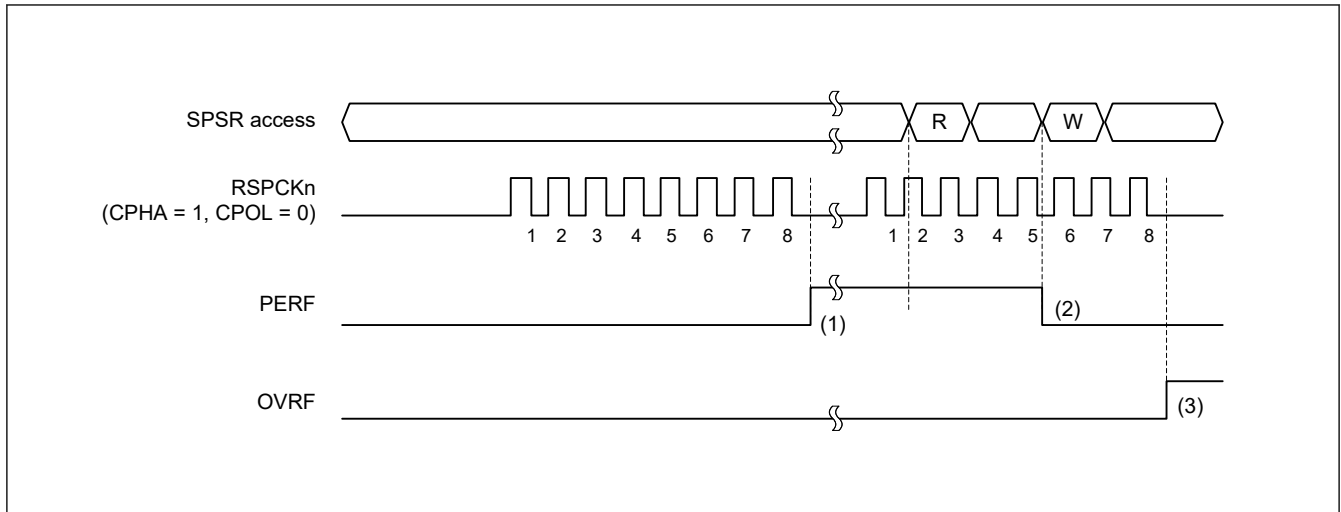

Figure 27.31 Operation example of the PERF flag
Figure 27.31 shows an example of operation of the OVRF and PERF flags. The SPSR access shown in Figure 27.31 indicates the condition of access to the register, where W denotes a write cycle, and R a read cycle. In this example, full-duplex serial communication is performed while the SPCR2.SPPE bit is 1. The SPI performs an 8-bit serial transfer when SPCMD0.CPHA bit is 1 and the SPCMD0.CPOL bit is 0. The numbers given for RSPCKn in the waveform represent the number of RSPCK cycles, such as the number of transferred bits.
The operation of the flags at timings (1) to (3) in Figure 27.31 is as follows: